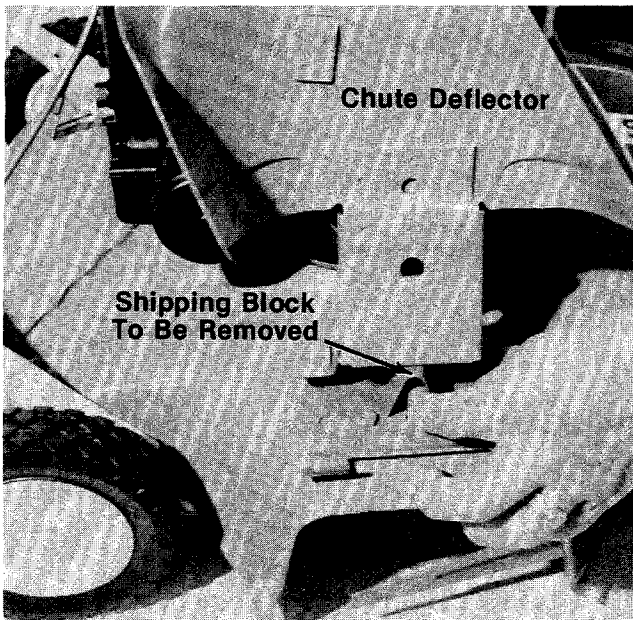

FIGURE 5.
- ← Please note that the chute deflector on your mower is in an upright position. It is held in that position by a shipping block. This block is used for shipping purposes only. It must be removed and discarded before your mower is put into operation. See figure 5.